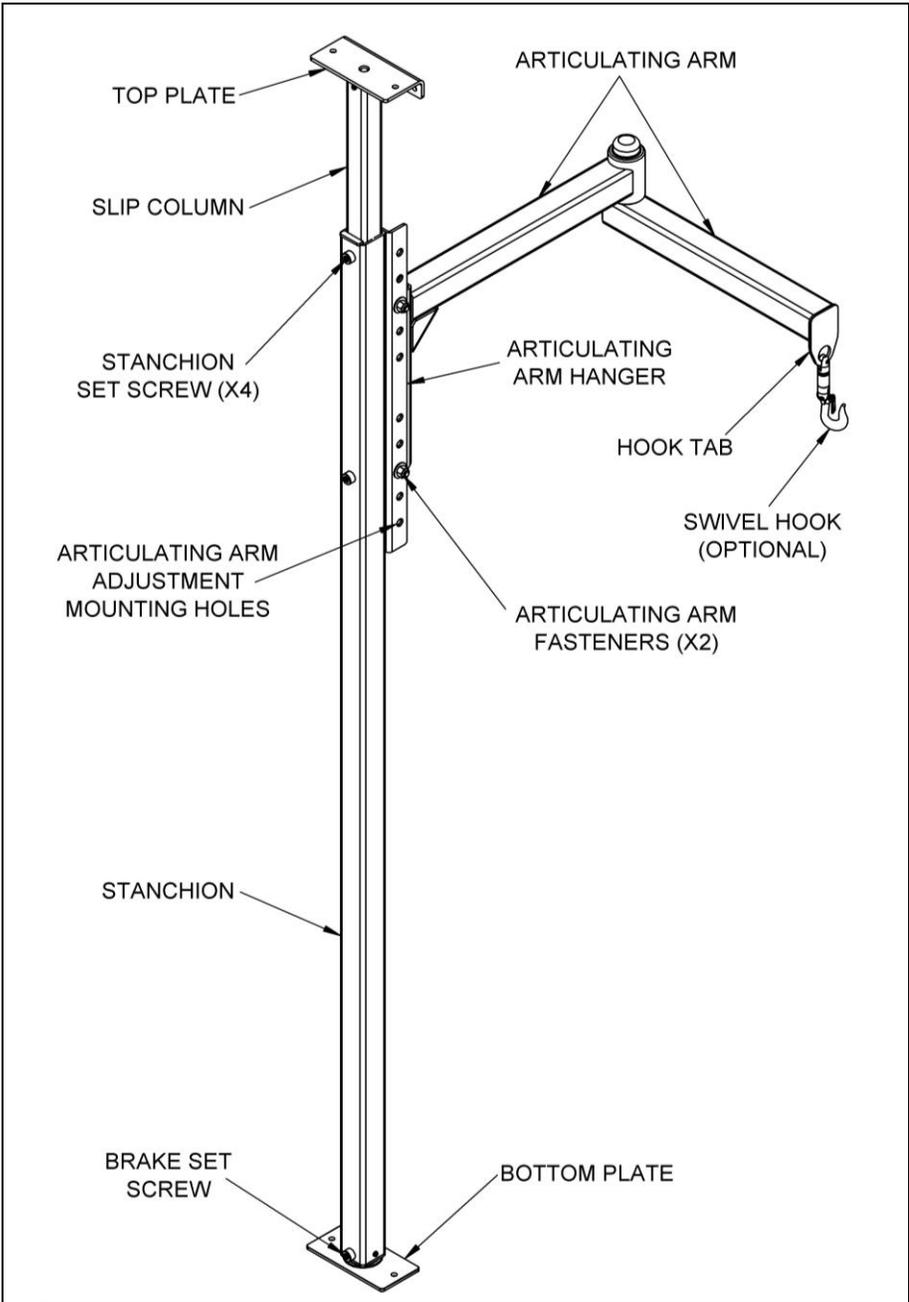
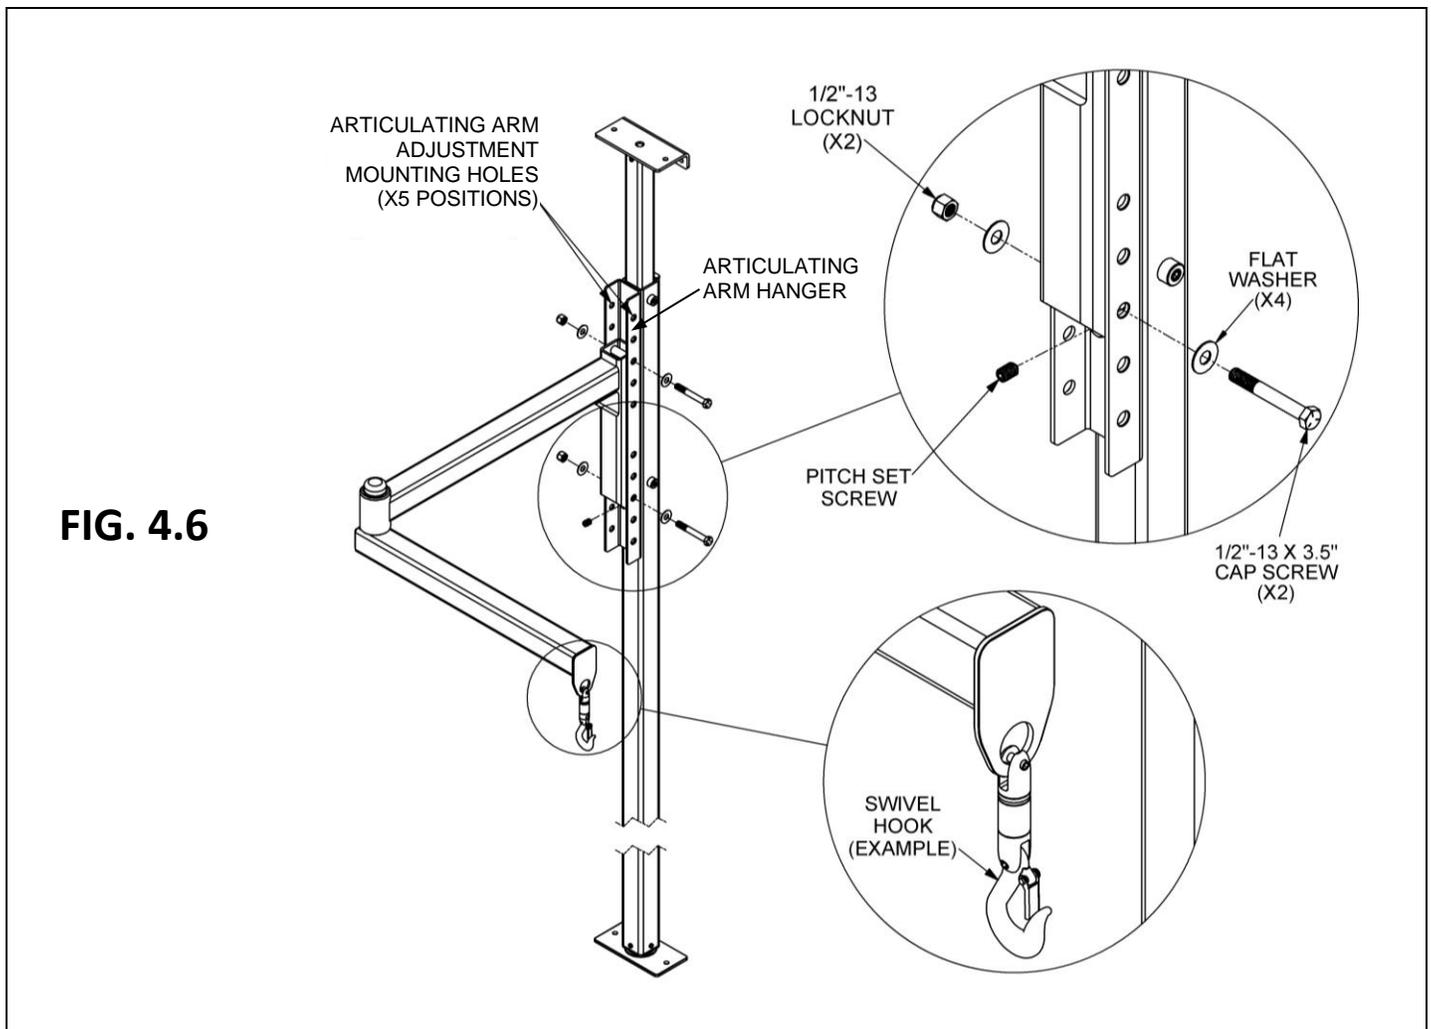

FIG. 4.1
FIG. 4.6
- 4.1.1. For your convenience, FIG. 4.1 is provided to give an overall design familiarity with the lift. Depending on the model purchased, the ORBIT works on ceiling heights of 7'-9' or 8'-12'.
- 4.1.3. Place stanchion in anchoring location, then slide the slip column up to ceiling and or wall (FIG. 4.1).
✎ The articulating arm hanger ('hanger') (FIG. 4.6) features 5 adjustable arm height positions, allowing the flexibility to set vertical clearance as needed.
4.2.3. The arm fits inside of the hanger (FIG. 4.6) and is bolted in place. After determining the working height of the arm, secure it into 2 of the pre-drilled anchor holes using (2 ea.) 1/2"-13 X 3.5" cap screws, (2 ea.) 1/2"-13 locknuts, and (4 ea.) 1/2" washers (place 1 washer under each cap screw and 1 under each nut).
4.3.2. Using a Torpedo level, level the arm by adjusting the 1/2" pitch set screw (FIG. 4.6, FIG. 4.7, and FIG. 4.8).
4.4.1. The 1/2" brake set screw (FIG 4.1 and FIG. 4.9) increases/decreases the stanchion's rotational drag (the resistance of the stanchion to the pushing and pulling of the ORBIT operator). Drag is used to provide the operator more control over stanchion rotation; the stanchion rotation will follow the articulating arm's lead.
- 6.3. Slide the swivel hook over the hook tab (FIG. 4.1, FIG. 4.6, and FIG. 6.1).